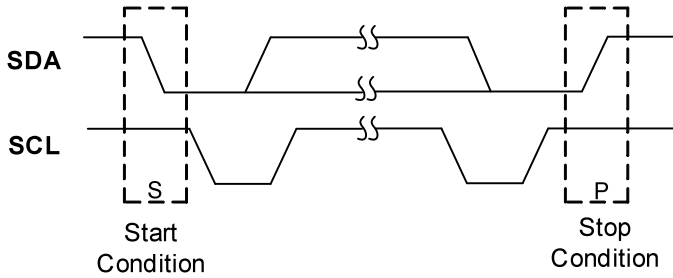

Figure 05. Start and Stop Conditions
- II. Start and stop condition: SDA high to low transition while SCL is high defines a Start condition. SDA low to high transition while SCL is high defines a Stop condition. (Refer. to Figure 05)